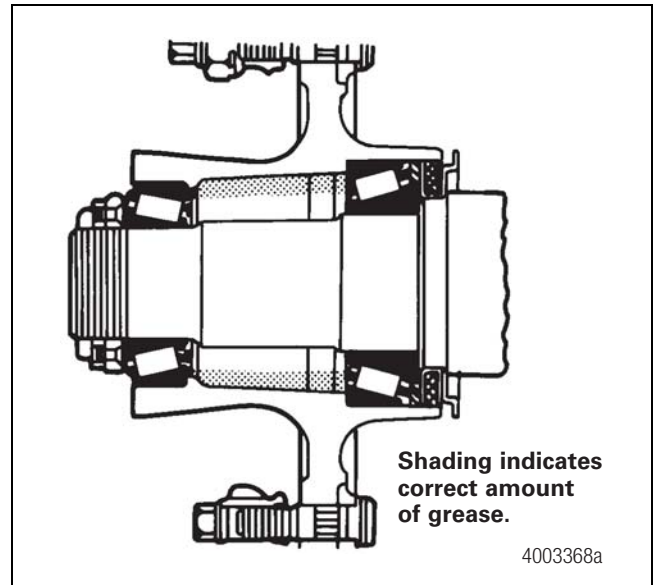

Figure 14.6
3. Pack the area of the hub between the two bearings with grease up to the smallest diameter of the bearing cups. Remove excess grease. Figure 14.6.